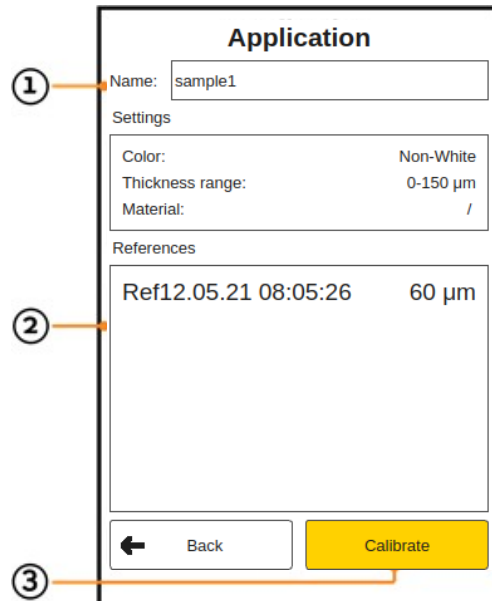

Figure 39: Calibration menu
The screen in Figure 39: Calibration menu shows the different fields of the calibration menu:
Measurements without a reference value are ignored in the calibration evaluation. Once all settings for the new application are established, navigate with the arrow keys **Ⓓ** to the 'Calibrate' field **③** (see Figure 39: Calibration menu).